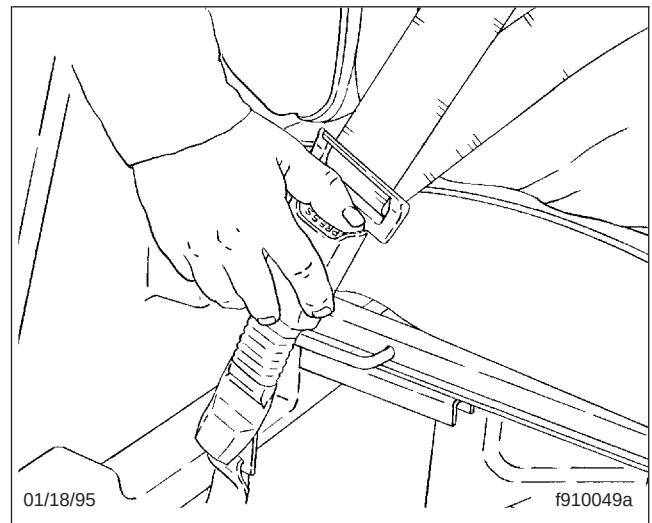

Fig. 5.9, Releasing the Three-Point Seat Belt
4. To unbuckle the three-point seat belt, push the button on the buckle as shown in **Fig. 5.9**. If the Komfort Latch was used, release it by giving the shoulder belt a quick tug. If you lean forward against the shoulder belt, the Komfort Latch will automatically release, and will need to be reset.